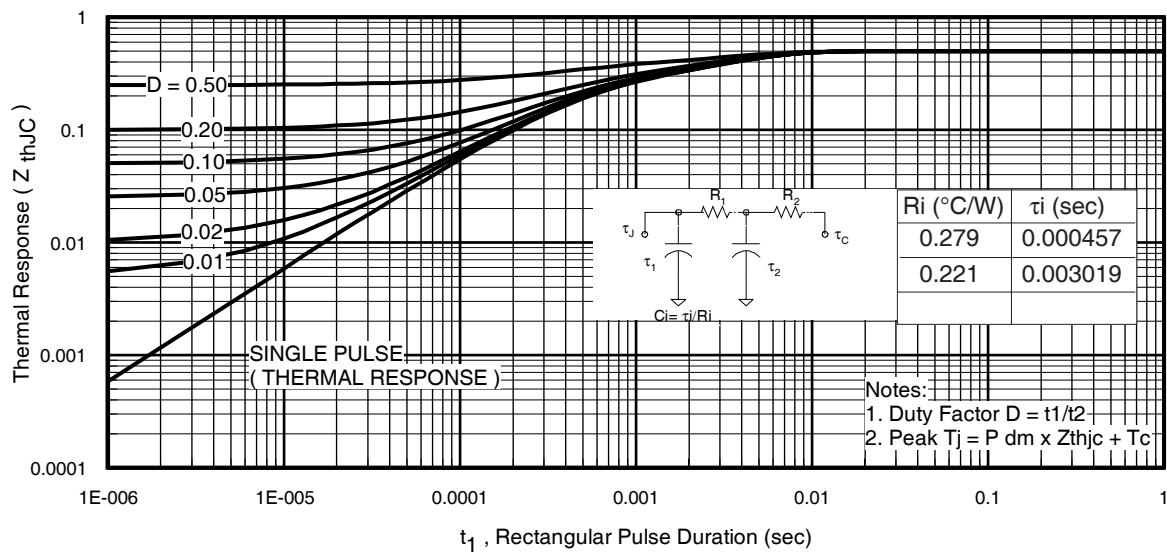
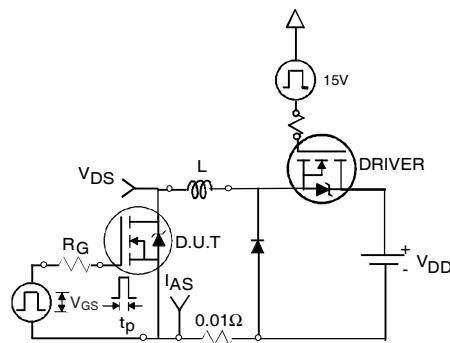

Fig 11. Maximum Effective Transient Thermal Impedance, Junction-to-Case
Fig 12a. Unclamped Inductive Test Circuit
- ① Repetitive rating; pulse width limited by max. junction temperature. (See fig. 11).
- ② Limited by $T_{J\text{max}}$, starting $T_J = 25^\circ\text{C}$, $L=0.095\text{mH}$, $R_G = 25\Omega$, $I_{AS} = 75\text{A}$, $V_{GS} = 10\text{V}$. Part not recommended for use above this value.
- ③ $I_{SD} \leq 75\text{A}$, $di/dt \leq 340\text{A}/\mu\text{s}$, $V_{\text{DD}} \leq V_{(\text{BR})\text{DSS}}$, $T_J \leq 175^\circ\text{C}$.
- ④ Pulse width $\leq 1.0\text{ms}$; duty cycle $\leq 2\%$.
- ⑤ $C_{\text{oss eff.}}$ is a fixed capacitance that gives the same charging time as C_{oss} while V_{DS} is rising from 0 to 80% V_{DSS} .
- ⑥ Limited by $T_{J\text{max}}$, see Fig.12a, 12b, 15, 16 for typical repetitive avalanche performance.
- ⑦ This value determined from sample failure population.
3. Equation below based on circuit and waveforms shown in Figures 12a, 12b.
- Z_{thJC}(D, t_{av}) = Transient thermal resistance, see figure 11